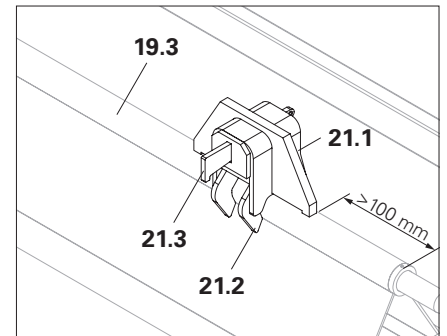

Fig. A6.03a
1. Place Stopper URA-2 (**21**) with contour plate (**21.1**) and clamping piece (**21.2**) on the upper profile tube (**19.3**) of the Aluminium Rail URT. Take into consideration dimension > 100 mm. (Fig. A6.03a)